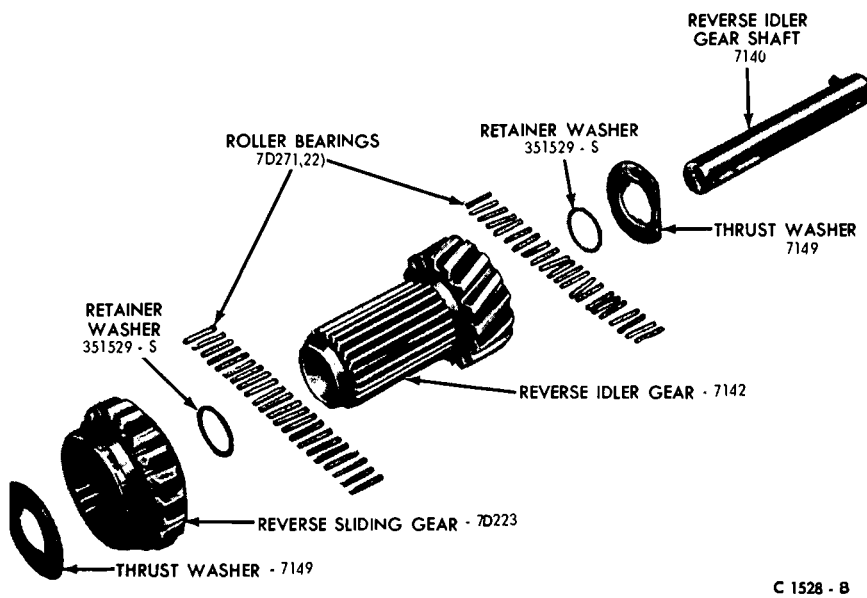

FIG. 18—Reverse Idler Gear Disassembled
5. Install the reverse idler sliding gear on the reverse idler gear making sure that the shift fork groove is toward the front (Fig. 18).
6. Coat the reverse idler gear thrust surfaces in the case with a thin film of lubricant and position the two thrust washers (Fig. 18) in place.